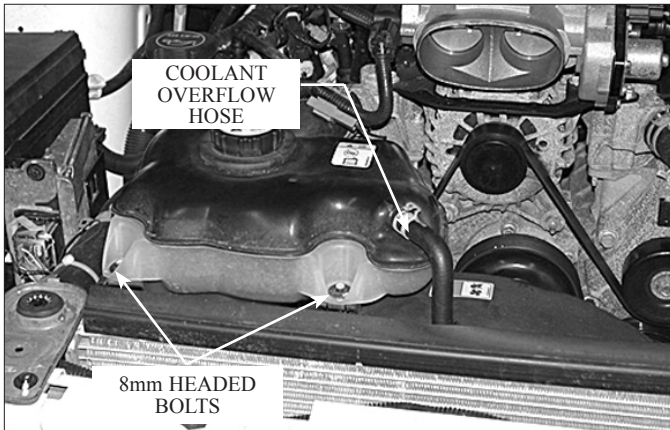

Fig. 1-f
- H. **(2005-2006 Only)** Remove the large hose connecting the thermostat housing to the bottom of the overflow reservoir. Set the hose and reservoir aside to be reinstalled in a later step. (See Fig. 1-g.)